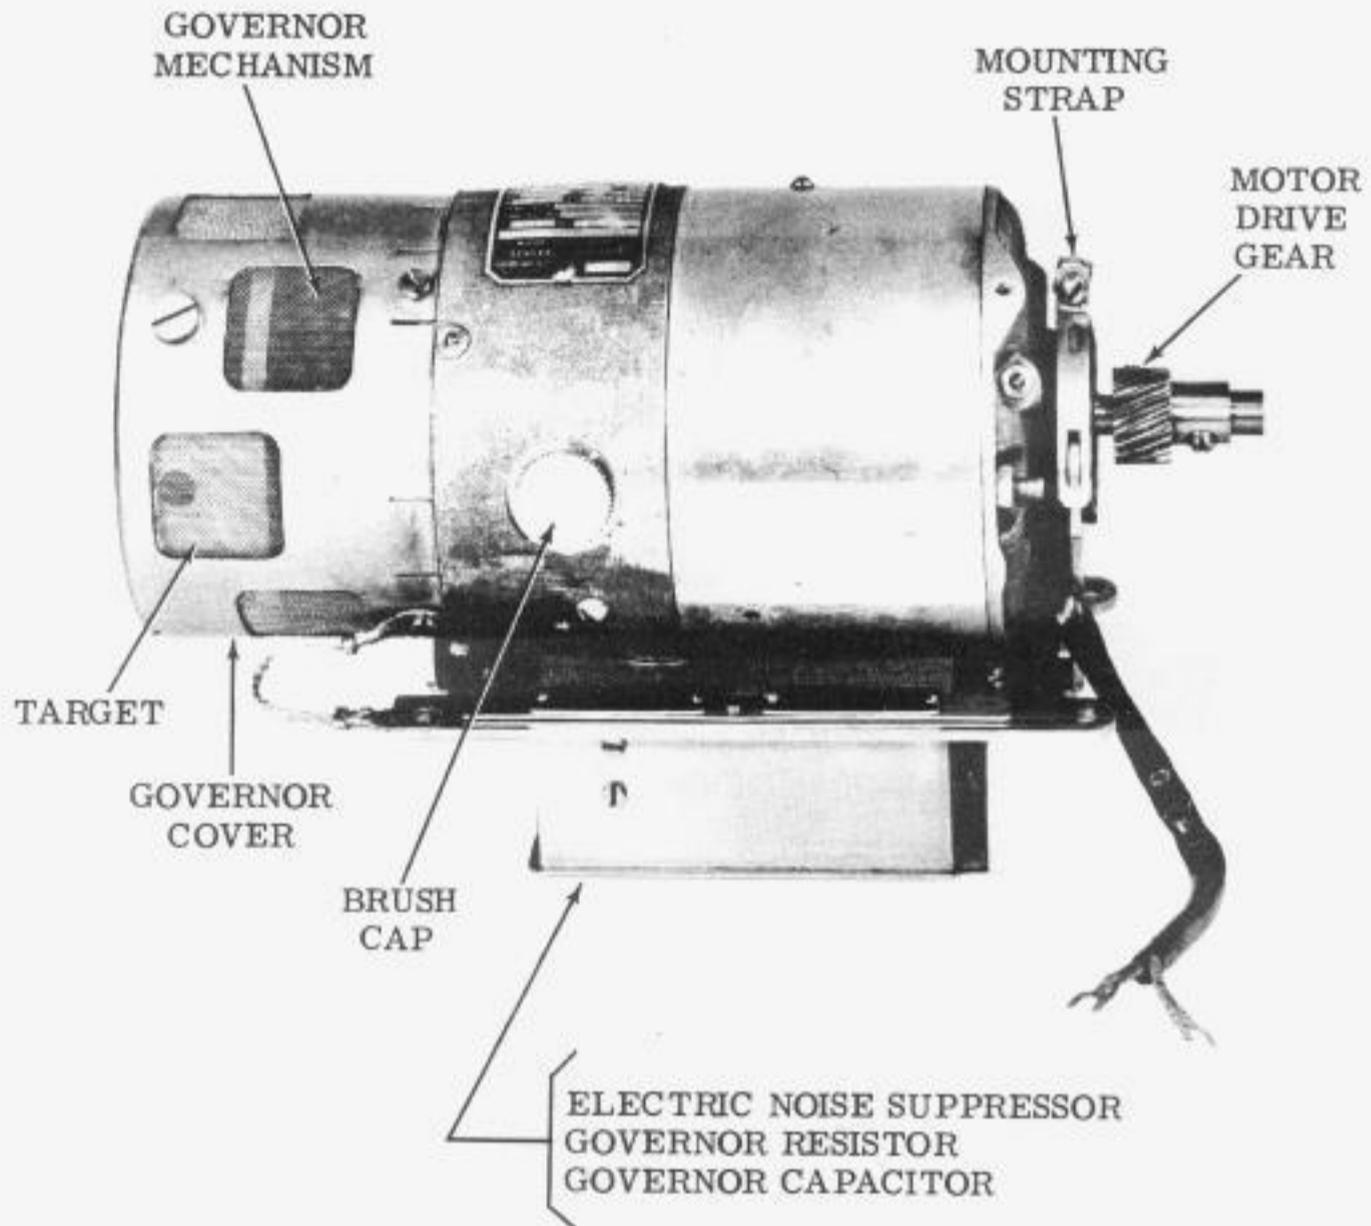

Figure 4 - Typical Series (Governed) Motor Unit
1.04 The series governed type motor units (Figure 4) are available in standard and heavy duty horsepower ratings and may be operated from regulated or unregulated, standard, single-phase power sources, or dc (direct current). The series governed type motor unit is also available for operation with 48 volts dc only. Specifications are given in Tables C, D, and E.
SERIES GOVERNED MOTOR UNITS (Figure 4)